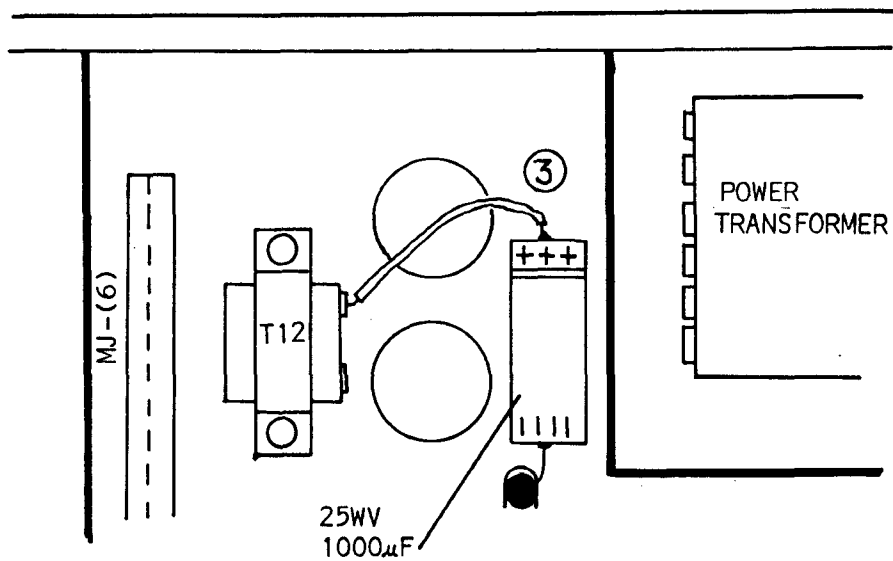

FIGURE 6-23
3. Add a 1000 uF, 25wv between T12 and ground, as shown in Fig. 6-23.